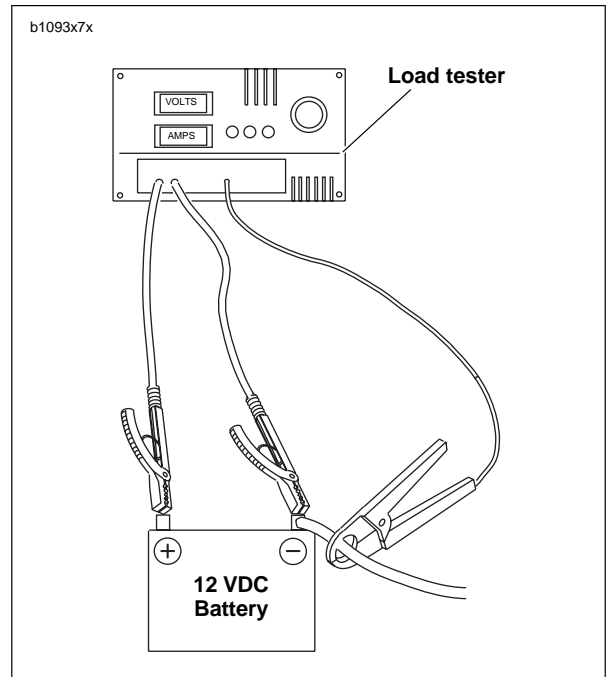

Figure 7-27. Check Current Draw (Ignition Switch On)
- See Figure 7-27. To check for this condition, place load tester induction pickup or current probe pickup over battery negative cable.